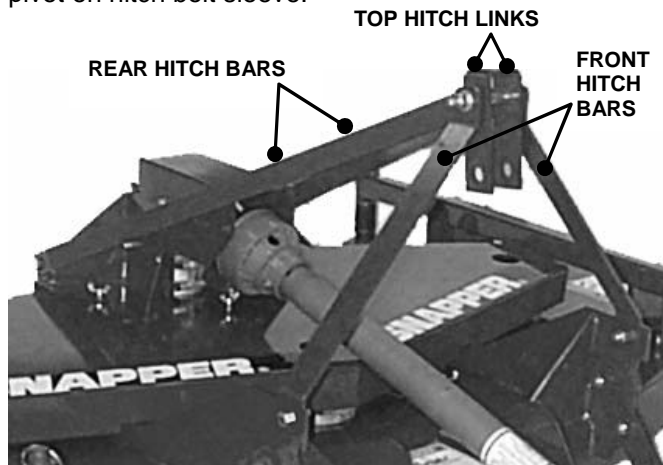

FIGURE 1
**STEP 2:** Assemble front & rear hitch bars and hitch link as shown in Figure 1. Tighten all hardware securely. **NOTE:** When assembled properly, hitch link should pivot on hitch bolt sleeve.